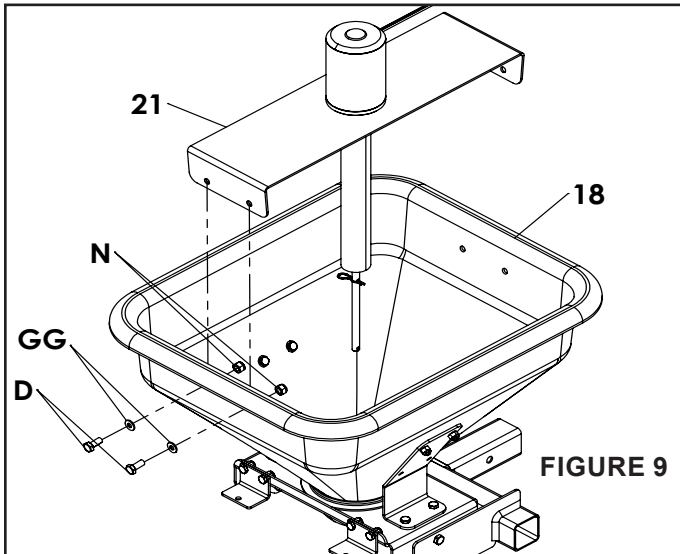

FIGURE 9
STEP 9: (SEE FIGURE 9)
- Install motor assembly (21) into the hopper, shaft first through the gate transition hole. (See image 9)
- Orientate the motor mount bracket (21) so the motor harness is facing towards the hitch (6).
- On the opposite side of the hitch install two hex bolts (D) and washers (GG) through (18) and (21). (See image 9)
- Secure with two hex nuts (N).